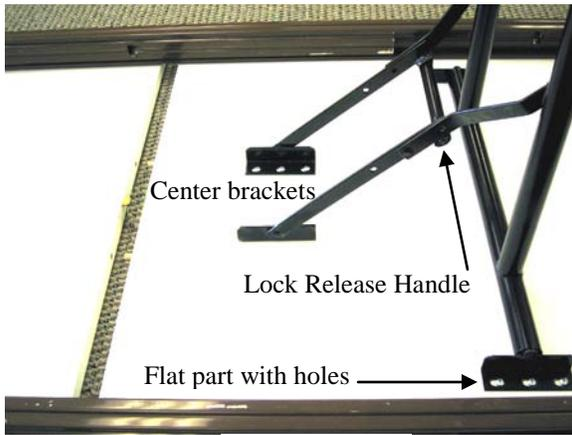
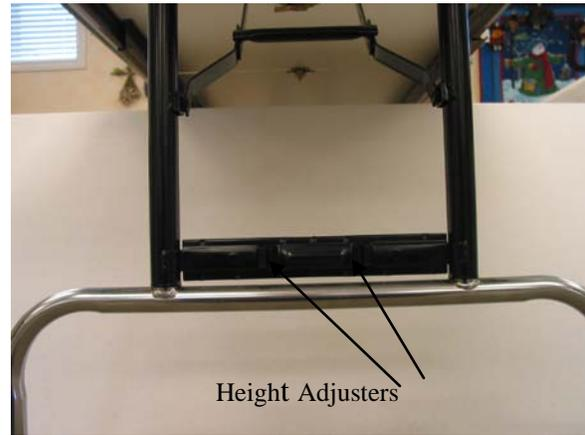

Figure 3
Figure 4
- a) Place one leg on the underside of the table between the rails with the center brackets toward the center. The center folding mechanism should have the flat side next to the table underside. The leg height adjusters push together to adjust table height and should face out away from the center of the table (**Figure 4**). **Note: The lock release handle should be down toward the table top (Figure 3).**
- b) Install the pivot “T” inserts (x2) into each end of the leg top. The “T” has a short round tube which slides into the top tube of the leg assembly. Use the same height “T” on each side of the leg. **Important note: Use the short “T” s on the leg with the short center brackets and the long “T” s on the leg with the long center brackets.** The flat part with holes of the “T” goes next to the table top (**Figure 3**).